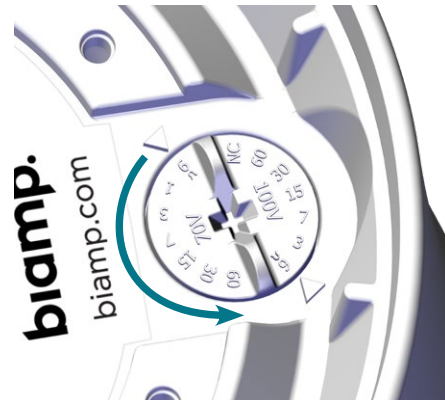

Figure 8. Rotate knob to select tap setting - align desired value with arrows
2. Rotate the knob to the appropriate setting and align with the arrows (Figure 8).